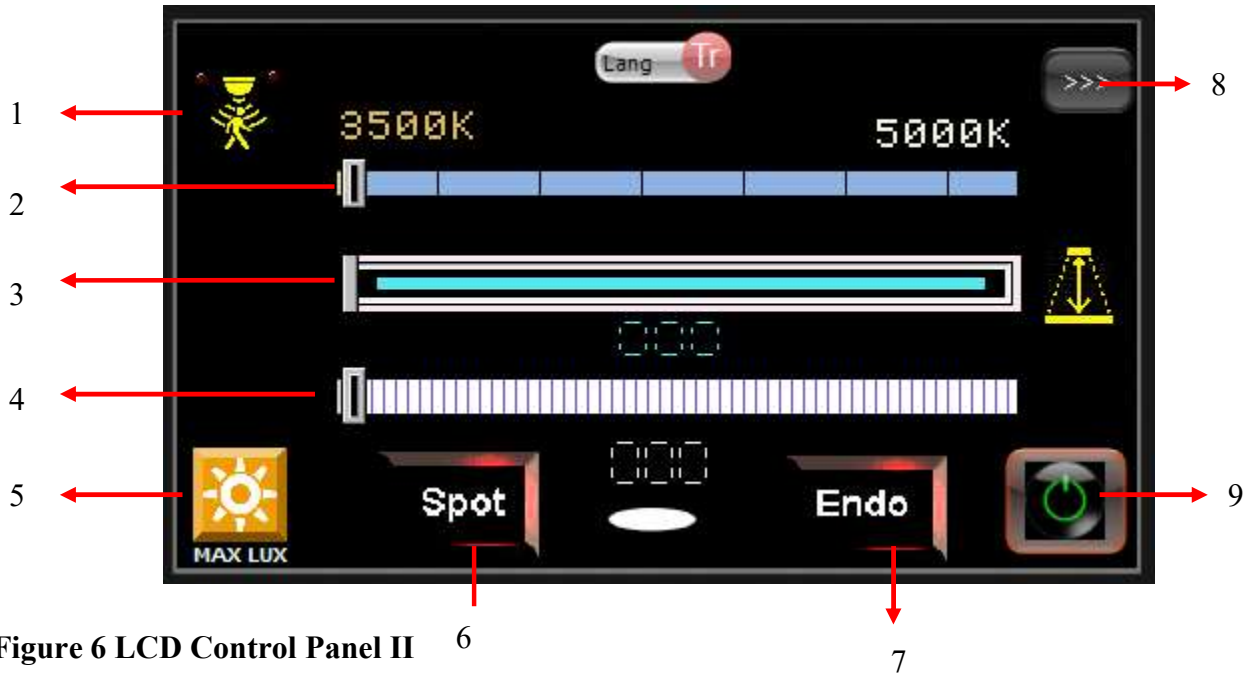

Figure 6 LCD Control Panel II
- Turkish or English language options can be selected from the LCD control panel in Figure 6.
The camera control screen is the screen where the camera features are controlled. Switching to the camera control screen is made by using the button number 8 in Figure 6 in models with cameras.